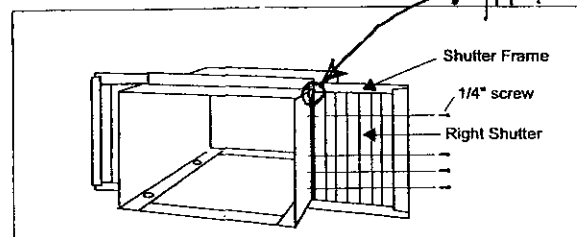

Fig 7
Slide the shutters into the top and bottom channels as shown in (Fig.7) The shutters are identified (on each frame) as "left" or "right" Attach the shutters to the cabinet using (4) 1/4" screws on each side